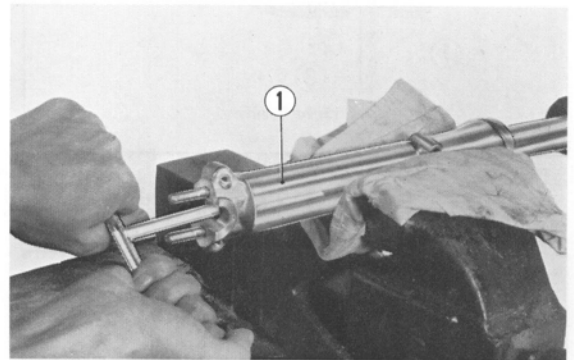

Fig. 252 ① Fork pipe
6. Unscrew the 8 mm bottom case bolt using a hollow set wrench (Tool No. 07917-3230000) and remove the damper unit from the bottom case. (Fig. 252)